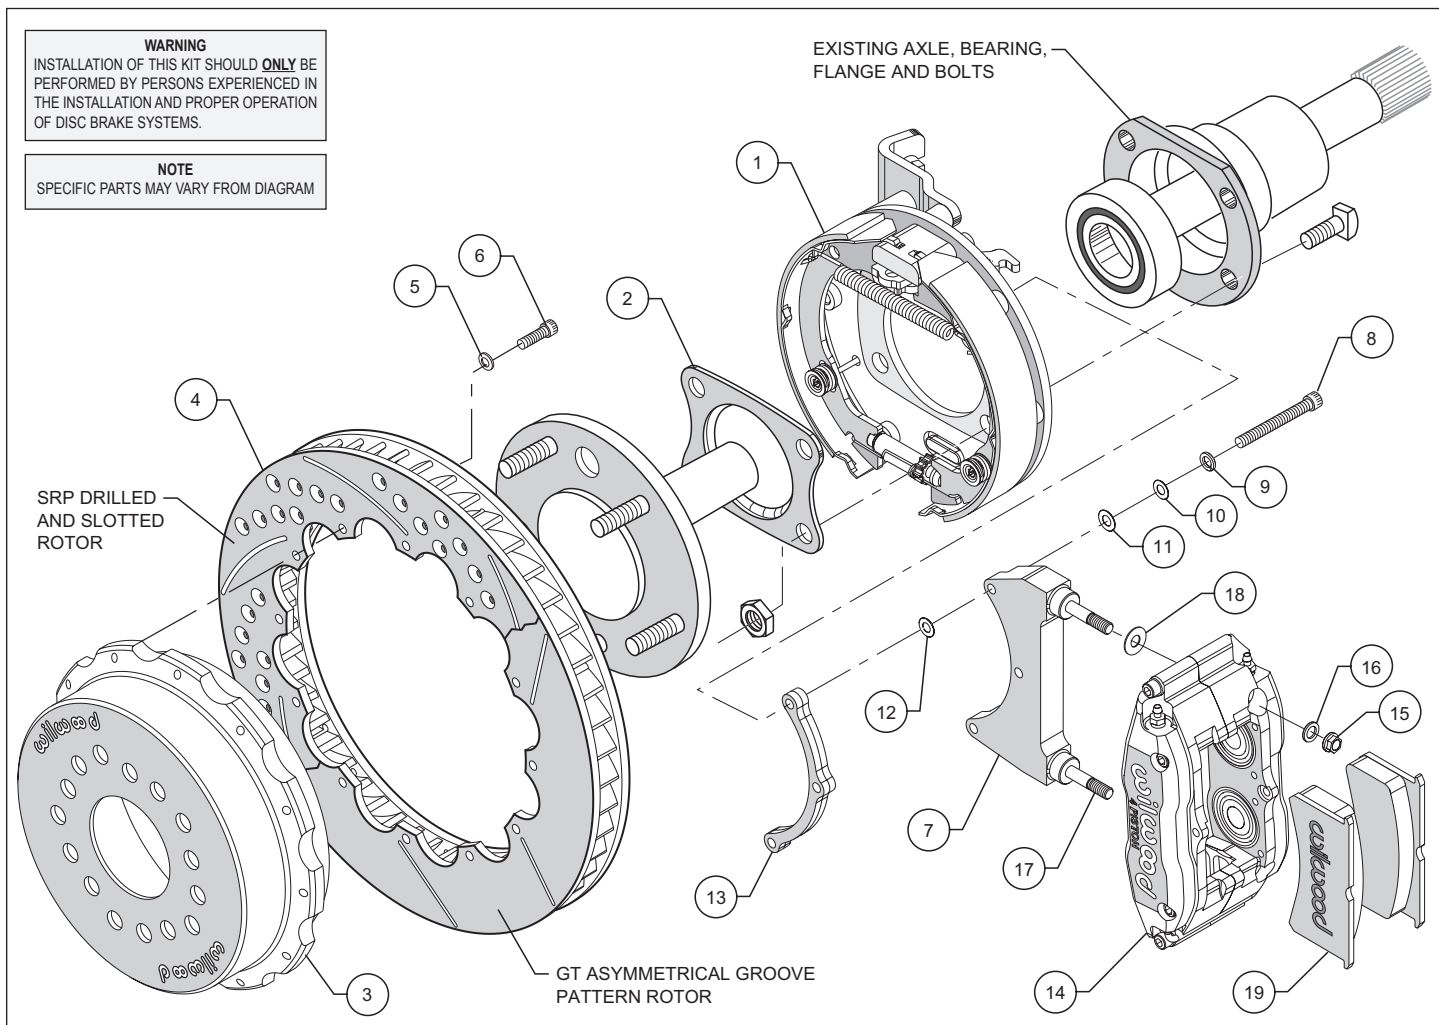
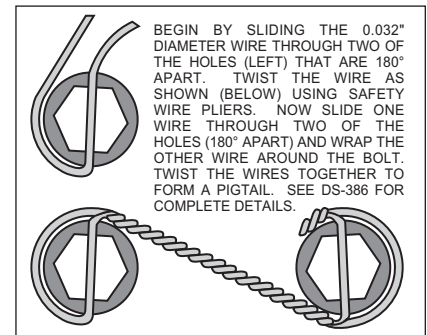

Figure 1. Typical Installation Configuration
Figure 6. Safety Wire Diagram
A. **Full Circle Retainers** require the utilization of a qualified machine shop to press off the axle bearing and OEM retainer. Then have machine shop install new retainer (2), supplied with bracket kit with lip facing toward bearing, reference Figures 1, 4 and 5 (we suggest that you install a new bearing at this time, not supplied with kit).
B. **"U" Retainers** require the removal of the OEM retainer by cutting or grinding a notch in the retainer to facilitate removal. Once OEM retainer is removed, install new retainer (2) supplied with bracket kit with the "U" opening facing up and the lip facing toward bearing, reference Figures 1, 4 and 5.
•Slide the bracket kit assembly (1) onto the housing flange and then insert the axle assembly through the center hole of the bracket kit assembly (1). Align the bearing retainer (2) with the four holes inside the bracket assembly (1) and secure using the stock Original Equipment Manufacturer (OEM) bolts and nuts. Stock OEM hex nuts that retain the bracket kit assembly (1) and retainer (2) should be on the wheel side of the bracket. Apply red *Loctite*® 271 to the stock OEM bolt threads and torque to OEM specifications. Make sure the bracket kit assembly (1) brake pads are **FACING OUTWARD TOWARDS THE WHEEL**.
•With the larger I.D. side of the rotor (4) facing away from the hat (3), bolt rotor (4) to hat (3) through the backside of the rotor using washers (5) and bolts (6). Torque bolts (6) in an alternating sequence to 103 **in-lb**. Safety wire bolts (6) using standard 0.032 inch diameter stainless steel safety wire as shown in Figure 6. Please refer to Wilwood's data sheet DS-386 (available at [www.wilwood.org/ds386.pdf](http://www.wilwood.org/ds386.pdf)) for complete safety wire installation instructions.
•Align the correct hole pattern in the hat (3) with the stud pattern on the axle flange. **NOTE:** Some OEM and aftermarket axles come with stud sizes larger than 0.50" diameter. Verify stud size and have a qualified machine shop drill the hats to the correct size, if necessary. Slide the hat/rotor assembly (3 and 4) over the wheel studs covering the bracket kit assembly (1) and against the axle flange face. Check to be sure the hat seats squarely against the hub. Install a couple of lug nuts (finger tighten) to keep the rotor/hat assembly in place while continuing with the installation.
•**NOTE:** Please reference the caution statement at the beginning of the assembly instructions. The caliper mounting bracket assembly (7) should be installed first with clean, dry threads on the mounting bolts (8). Install the bracket from the rear side of the bracket kit assembly (1) by sliding bolt (8) through lock washer (9), flat washers (10 and 11) bracket (7), shim washer (12) and finally through the spacer (13), see Figure 1. **NOTE:** End of bolt should not exceed inside face of insert. The bracket must tighten squarely against the back side of the bracket kit assembly (1). Inspect for interference from casting irregularities, machining ridges, burrs, etc. Use one thin shim (12) between the bracket (7) and spacer (13) during initial trial fitting.
• Install one washer (18) over each pre-installed stud (17) on the radial mount bracket (7). Slide the caliper (14) in place over the studs and rotor, then install the washer (16) and lock nut (15) to hold the caliper in place. The caliper bleed screws should be pointing up. Snug the lock nuts (15) and check that the rotor (4) is centered in the caliper (14). Add or subtract .015" shims (12) as necessary between the caliper mounting bracket (7) and the spacer (13) to center the caliper (9).
• Remove the caliper center bridge pad retainer bolt, nut, and tube from the caliper. Slide the brake pads (19) into place. They should install easily without interference. Check that the outside radius of the brake pad is aligned with the outside diameter radius of the rotor face. Add or subtract shims (18) between the caliper (14) and mount bracket (7) to gain the proper alignment. Reinstall the center bridge pad retainer tube, bolt, and locknut. The locknut should be snug without play in the bolt or tube. Be cautious not to over tighten.
• Adjust the parking brake shoes outward (using a drum shoe adjustment tool available at your local auto parts store) while spinning the hat (3) until a slight drag is felt against the hat/drum. Remove the lug nuts that were holding the hat/rotor in place. Install the wheel and lug nuts. Check to see that the wheel rotates freely without interference.
• Once all clearances have been checked, remove the wheel, caliper, hat/rotor from the bracket kit assembly (1). Secure the caliper mounting bracket (7) to the bracket kit assembly (1) using red *Loctite*® 271. Torque bolts (8) to 180 **in-lb**. Reinstall the hat/rotor assembly and again use lug nuts to hold it in place. Lubricate caliper mounting studs and nuts with lightweight oil, reinstall the caliper, torque the caliper nuts (15) to 30-35 **ft-lb**.